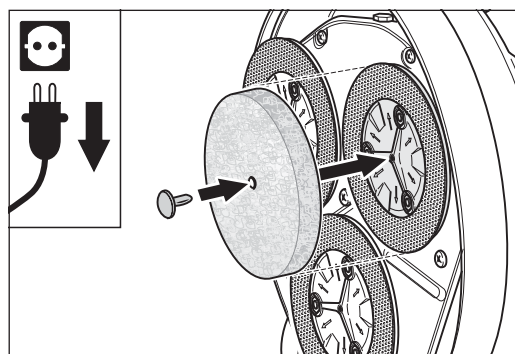

Fig. 36 The sanding pads are also fastened using the plastic plug.
- 5 Fasten the pads with a plastic plug (fig. 36).